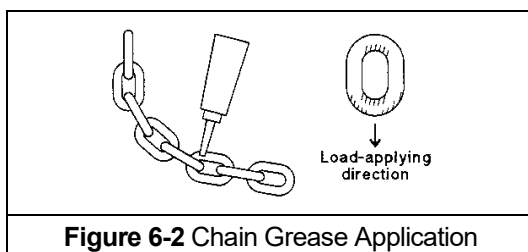

Figure 6-2 Chain Grease Application
- Apply Harrington Hoist, Inc. lubricating grease (Part No. ER2CS1951) or an equivalent to industrial general lithium grease, NLGI No. 0, to the bearing surfaces of the load chain links as indicated by the shaded areas in Figure 6-2. Also apply the grease to the areas of the load chain (shaded areas in Figure 6-2) that contact the load sheave. Ensure the grease is applied to the contact areas in the load sheave pockets.